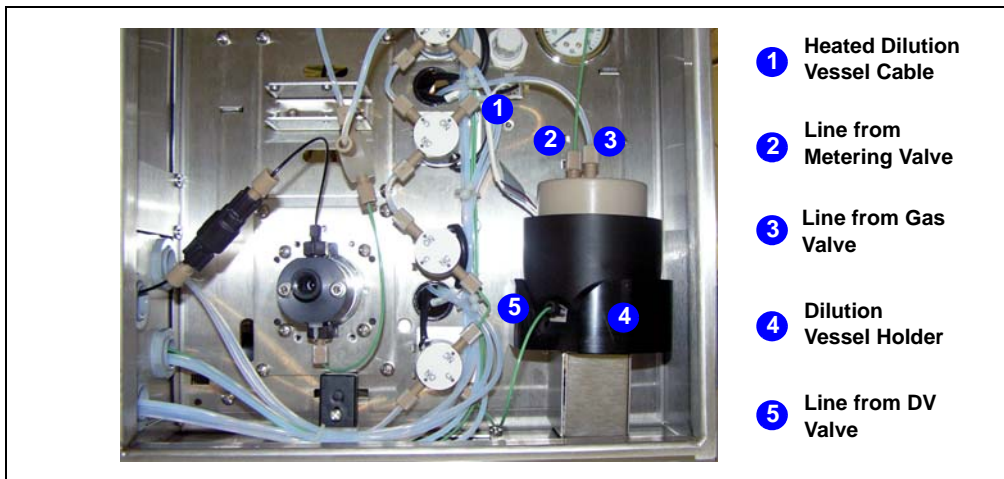

Figure G-6. Heated Dilution Vessel Installed on SP Panel (Vertical SP Enclosure Shown)
3. Install the heated dilution vessel assembly onto the holder (see Figure G-6).